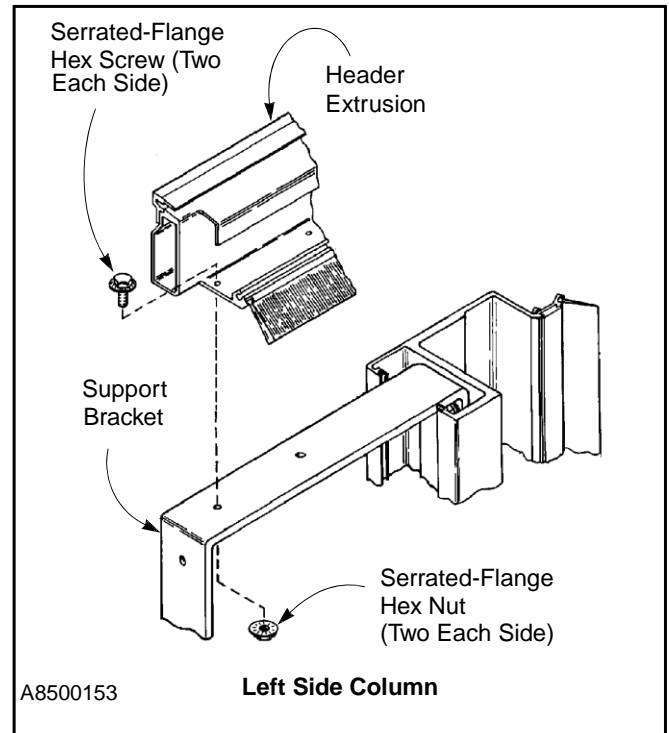

Figure 17
3. Attach the spreader assembly to the U-brackets using two  $\frac{3}{8}$ -16 x  $1\frac{1}{4}$ -in. serrated-flange hex screws and nuts at each end of the assembly. Face the spreader so the brush is toward the front of the door. (See Figure 17.)